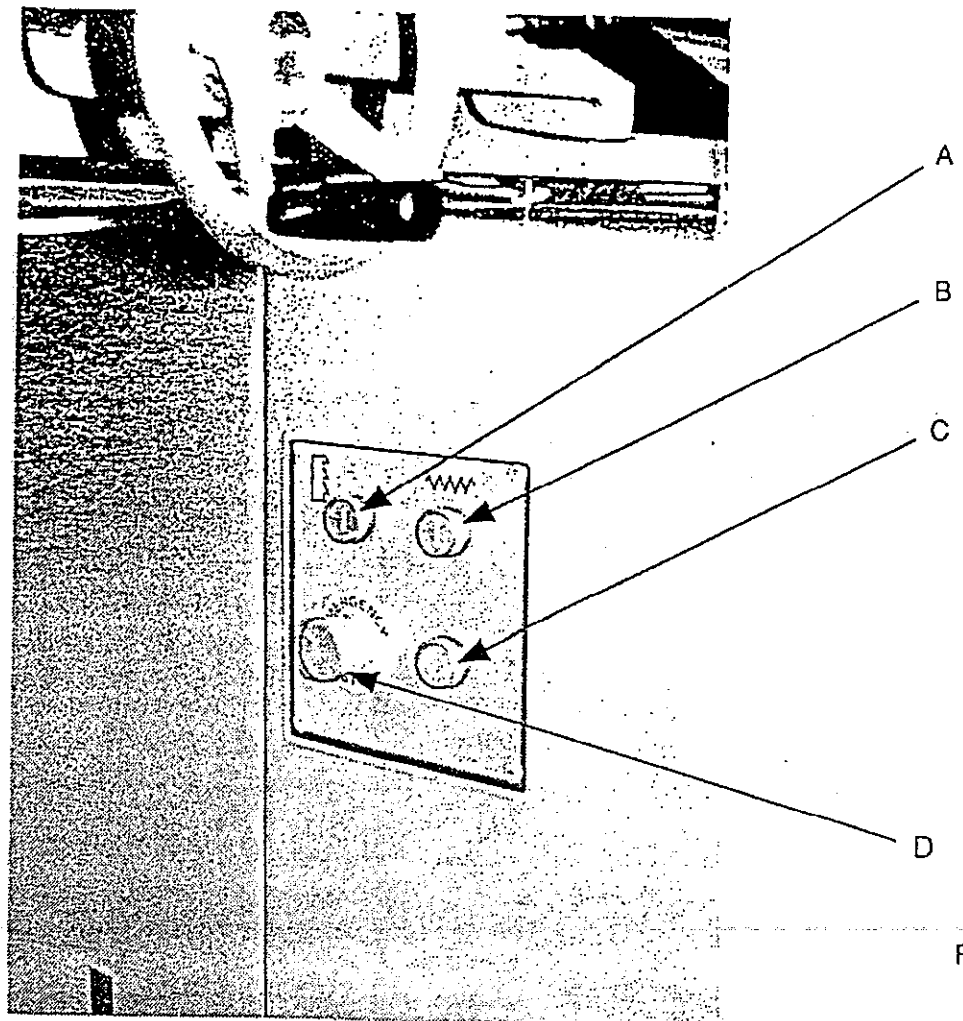

Fig 7
2. The "start" Button "A" (fig 7) controls the saw motor and will not function unless the isolator is switched on.
3. The "start" Button "B" (fig 7) controls the feed motor and will not operate unless the saw motor is running after saw motor is switched on several seconds will elapse before feed control will function to allow main motor to switch automatically from STAR into DELTA windings.
4. Button "C" (fig 7) will stop the blade & feeder.
5. Button "D" (fig 7) is the emergency stop.